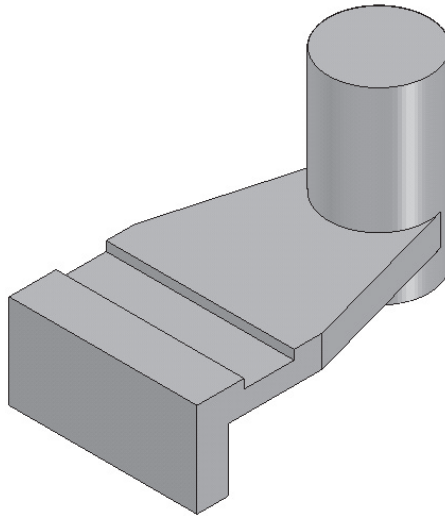

Figure 4-61 Model after creating the third feature
- c. Define a reference plane at an offset of 10 units from the bottom face of the second feature and use it to create the third feature, refer to Figure 4-61.
6. Choose **Finish** and then choose **Cancel** to create the feature and exit the **Protrusion** tool. The model, after creating the third protrusion feature, is shown in Figure 4-61.